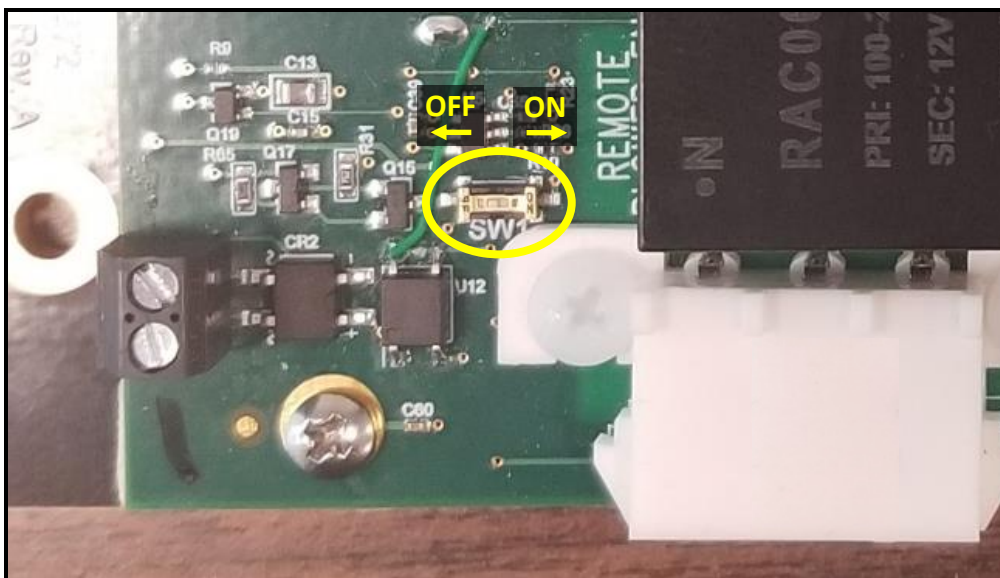

Figure 3
4. Flip the Relay Activation Switch to the “ON” position as indicated in Figure 3.
11. Remove the flash drive and apply 0-24 VDC to the start relay according to the wiring diagram in Figure 3 to start the unit.